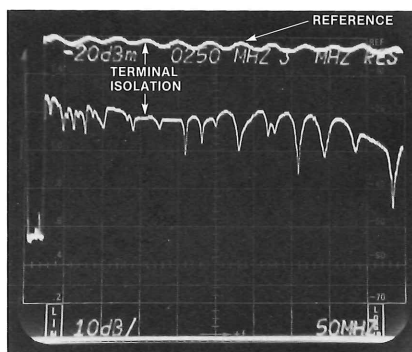

Figure 10-2. Subscriber terminal isolation measurement.
5. Set the 7613 mainframe to STORE mode and adjust the sweep generator for a slow sweep. Experiment with the sweep generator's SWEEP TIME, the spectrum analyzer's TIME/DIV and BASELINE CLIPPER controls and the mainframe's storage controls until a display similar to figure 10-2 is obtained. If this display is more than 1 dB unflat, you might want to photograph this condition.
7. Repeat adjustments as in step 5 to achieve display similar to figure 10-2.